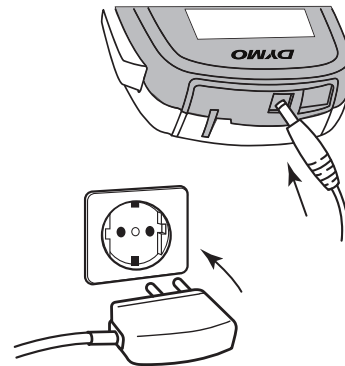

Figure 2
- 2 Plug the other end of the charging adapter into a power outlet. See Figure 2.